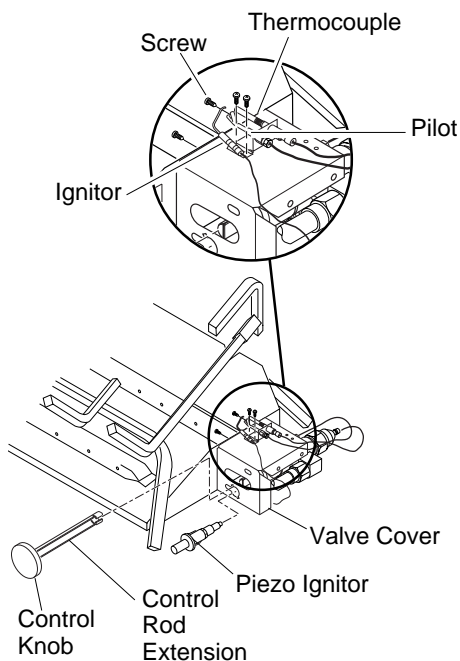

Figure 14 - Installing Cover, Control Knob, and Piezo Ignitor
- Install thermocouple, pilot, and ignitor onto valve cover as shown in Figure 14. Use the provided screws.